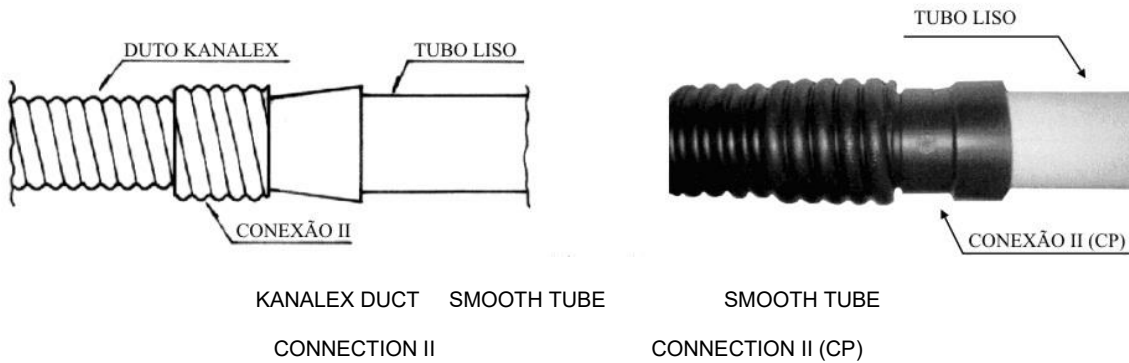

Figure 28
- b) Completely screw connection II (CP) into the corrugated duct and introduce the smooth tube into the other end (Figure 28).